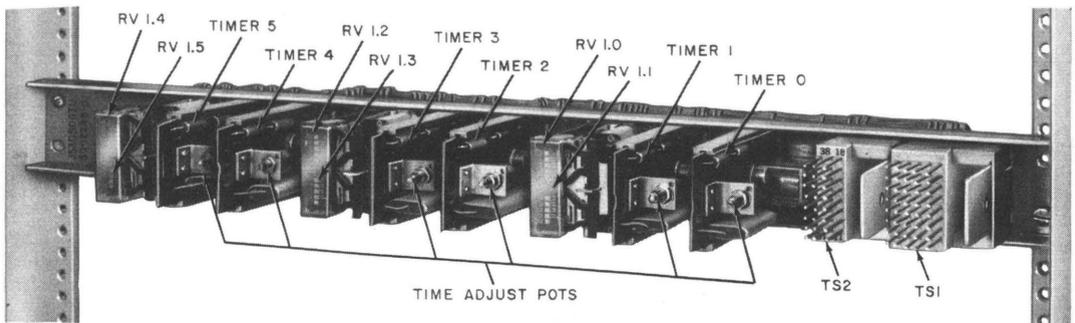
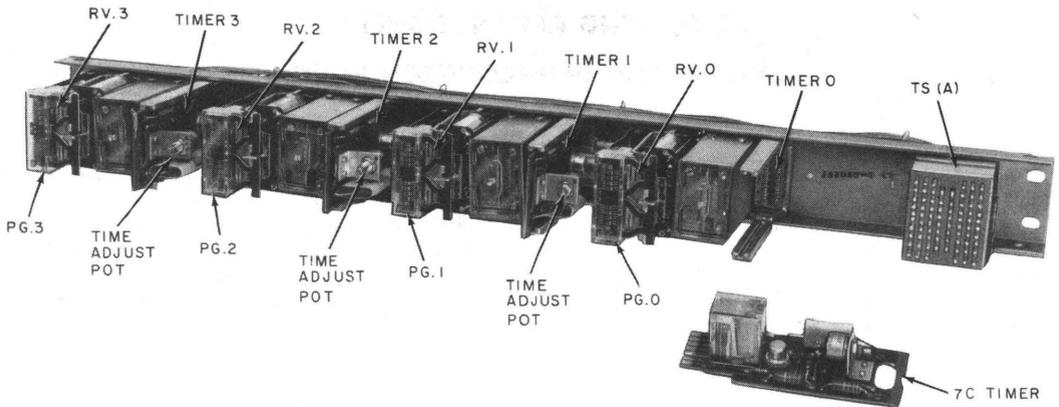

Fig. 1—J53050G, List 1 (MD) Interconnecting Unit Equipped With 7C Timers
Fig. 2—J53050G, List 2 Interconnecting Unit Equipped With 7C Timers
1.04 One J53050G, List 1 (MD) interconnecting unit (IU), Fig. 1, equipped with six 7C timers provides six Connecting Arrangements CTD. One J53050G, List 2 IU (Fig. 2) equipped with four 7C timers provides four Connecting Arrangements CTD. (The 7C timers must be ordered separately—one per connecting arrangement.)
3.03 One 7C timer must be provided per CO trunk to be connected to the CPE (maximum of six per J53050G, List 1—maximum of four per J53050G, List 2). *Adjust the timing potentiometer on the 7C timer (see Fig. 1 and 2) fully counterclockwise, then adjust it one-quarter turn clockwise.* This provides the proper time-out interval (250 to 500 ms) for the operation of Connecting Arrangement CTD. Plug the 7C timer